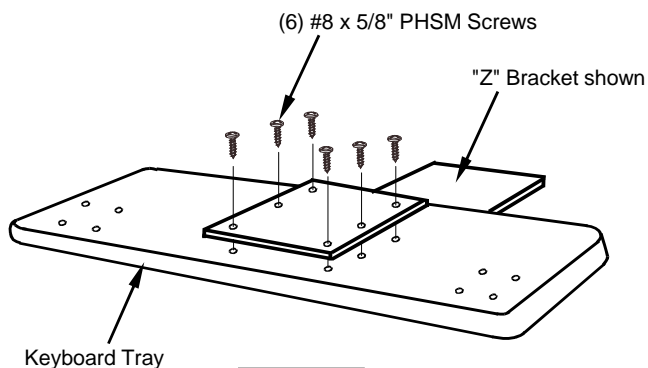

Figure 1
- Align the "Z" or "Micro-Arm" Bracket with the 6 pre-drilled holes in the center of the keyboard tray. **Figure 1.**
- Using (6) #8 x 5/8" PHSM screws, attach the bracket to the keyboard tray and tighten securely.